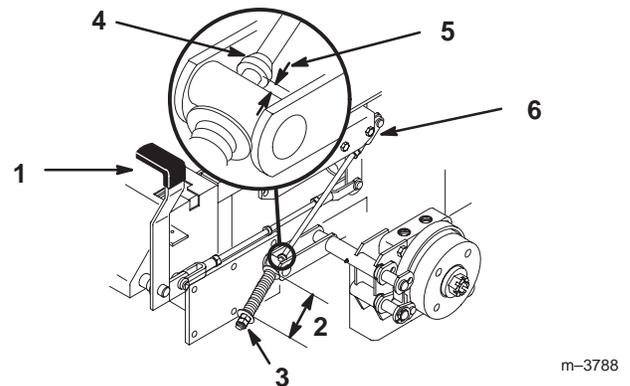

Figure 56
2. Measure the length of the spring. Measurement should be 2-3/4 inch (70 mm) between washers (Fig. 56).
3. If adjustment is necessary, loosen the jam nut below the spring and tighten the nut directly below the yoke (Fig. 56). Turn the nut until the correct measurement is obtained. Tighten the two nuts together and repeat on opposite side of unit.
6. Measure the distance between the trunnion roller and the collar on brake rod. Measurement should be 3/16-1/4 inch (5-7 mm) (Fig. 56).
7. If adjustment is necessary, loosen the jam nut directly below the yoke. Turn the bottom rod until the correct measurement is obtained (Fig. 56). Tighten jam nut at yoke